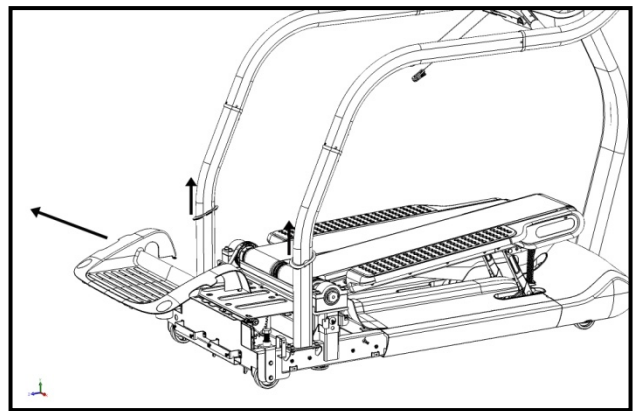

Fig. 22
21. Dislodge the rear step shroud from the TreadClimber® base (Fig. 22) and move the handrail grommets up the handrails.